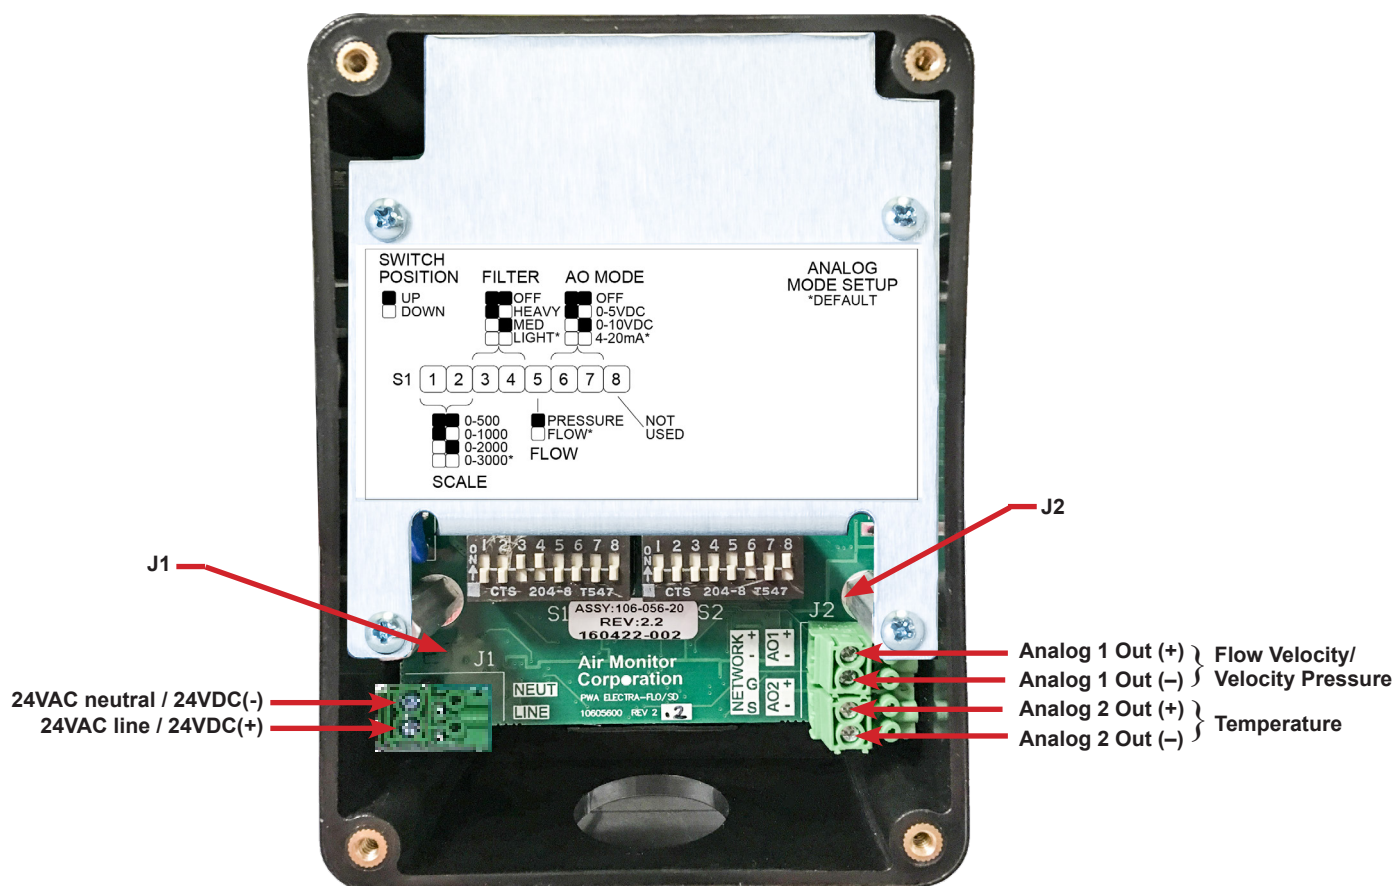

Figure 3
Power wiring is done at terminal strip J1 and signal wiring is done at terminal strip J2. Both terminal strips are located in the lower corners of the transmitter and are accessible by removing the enclosure cover. See Figure 3. One ½" conduit opening is provided in the bottom of the enclosure for power and signal wiring.
2. Observe the Run Mode indicator located in the upper left corner of the board. See Figure 3. After a brief initialization period the Run Mode LED will begin blinking on/off in ½ second intervals indicating normal operation.